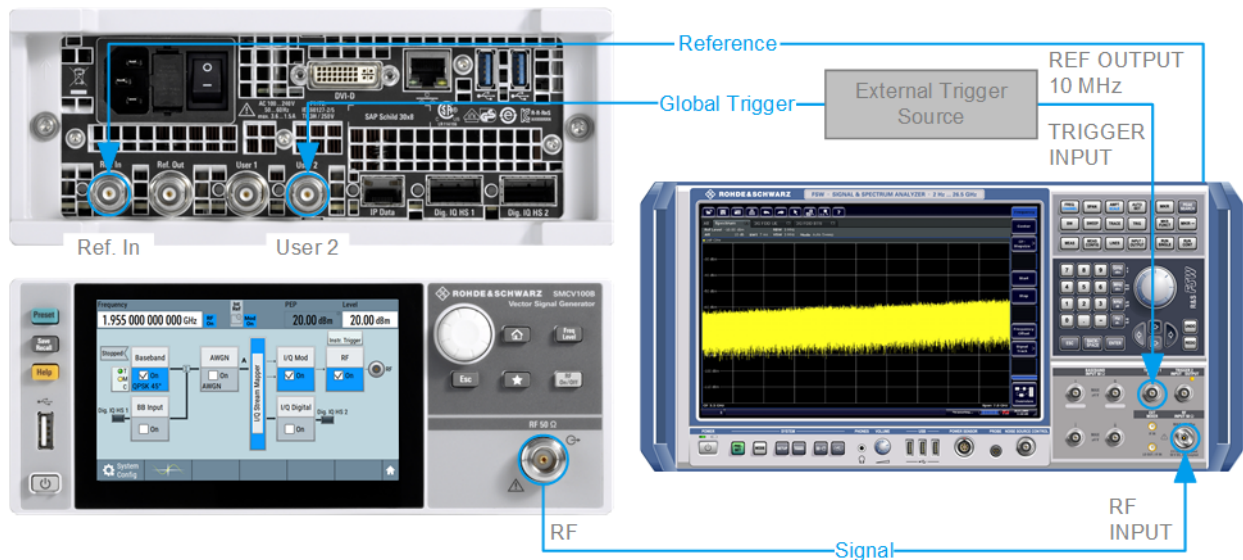

Figure 3-10: Simplified representation of a test setup**
1. Use a suitable cable to connect the external trigger source to the User 2 connector of the R&S SMCV100B. See Figure 3-10.
The Figure 3-10 depicts the location of the connectors and explains the connection as principle. In practice, you would rather "substitute" the analyzer by a DUT, like a base station (BS).